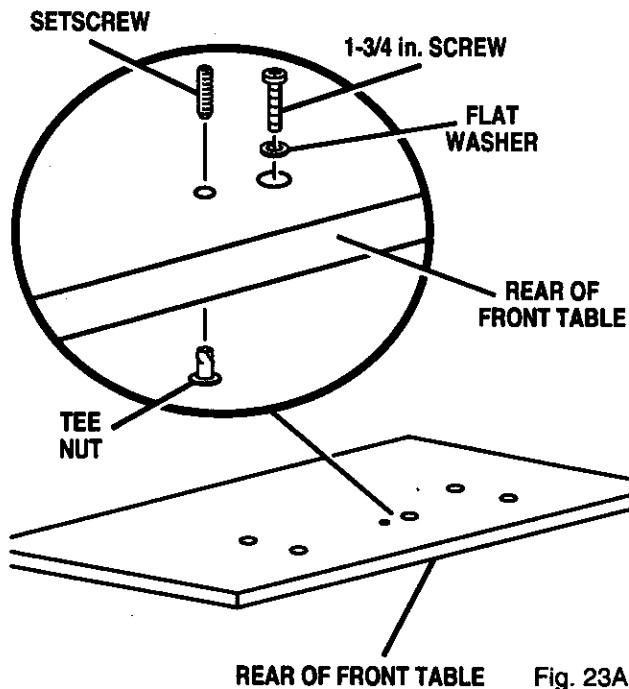

Fig. 23A
See Figures 23A - 23C.
- Place the long pan head screw into the center hole and thread into the U-clip. Do not tighten until the table has been checked for evenness. See Figure 23A.